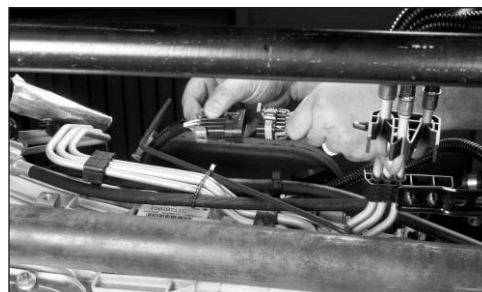

Fig. 15
18. Locate the GM upfitter P.T.O. interface connector, located on the upper left side of the transmission. Connect Chelsea supplied wiring harness (379895) to the interface connector (Fig.15).